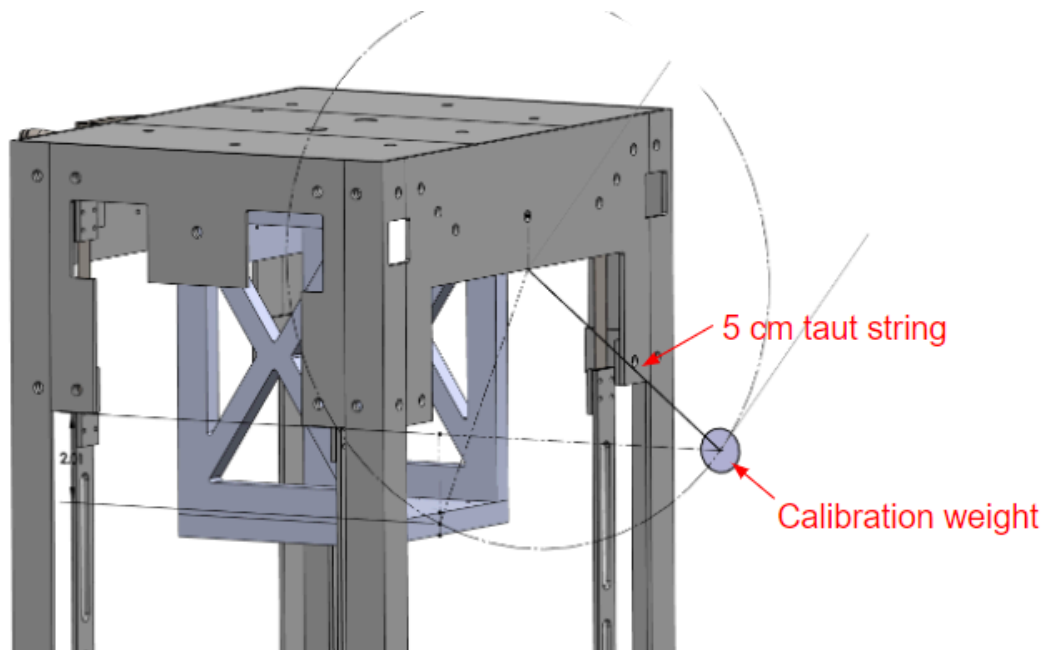

Fig. 4: System Test Schematic
1.12: Attached the test pendulum to the test stand such that the weight will strike the front edge of the thruster shelf within an angle range of 15° to 30° from the vertical as shown in Fig. 4.	OK? _____
4.01: Pull test weight into position as shown in Fig. 4, then release.	OK? _____
4.04: Pull test weight into position as shown in Fig. 4, then release.	OK? _____